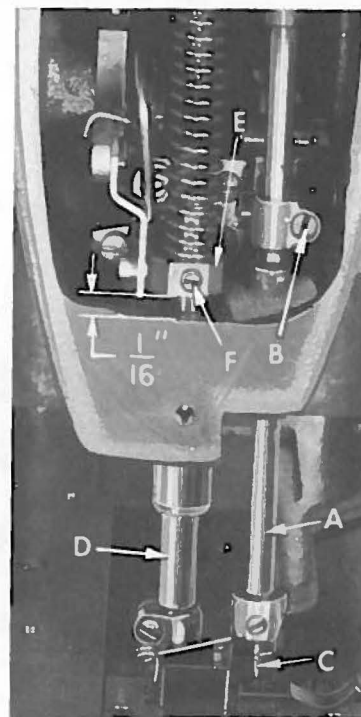
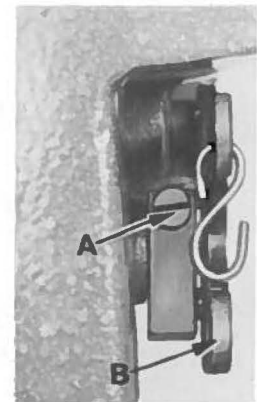

Fig. 4
Fig. 12
Align the needle bar (A, Fig. 4) and set to height, using the proper test pins and test plate of the right gauge.
If test plate and test pins are not available, insert a new set of needles (Type and Size as required) and align the needle bar so the needles center in the needle holes of throat plate. To align needle bar, loosen needle bar clamp screw (B, Fig. 4) and turn bar as required. Tighten clamp screw.
The height of the needle (C, Fig. 4) is correct when the top of its eye is $\frac{3}{64}$ inch below the underside of the looper, with the looper point flush with the left side of the needle. If adjustment is necessary, loosen screw (B) and move needle bar (A) up or down as required and retighten screw. Care should be taken not to disturb the alignment of the needle bar when moving the needle bar either up or down.
If adjustment is needed, loosen tension release lever screw (A, Fig. 12), located at the back of the machine and move tension disc separator as required. Retighten screw. After adjustment there should be no binding at any point.
The height of the presser bar (D, Fig. 4) is set correctly if it is possible to remove the presser foot when the foot lifter lever (B, Fig. 12) is fully depressed. Also there should be approximately 1/16 inch clearance between lower surface of the presser bar connection and guide (E, Fig. 4) and the bottom surface of head opening in the bed when the foot lifter lever is released and the presser foot resting on the throat plate, with the feed dog down below the throat plate.